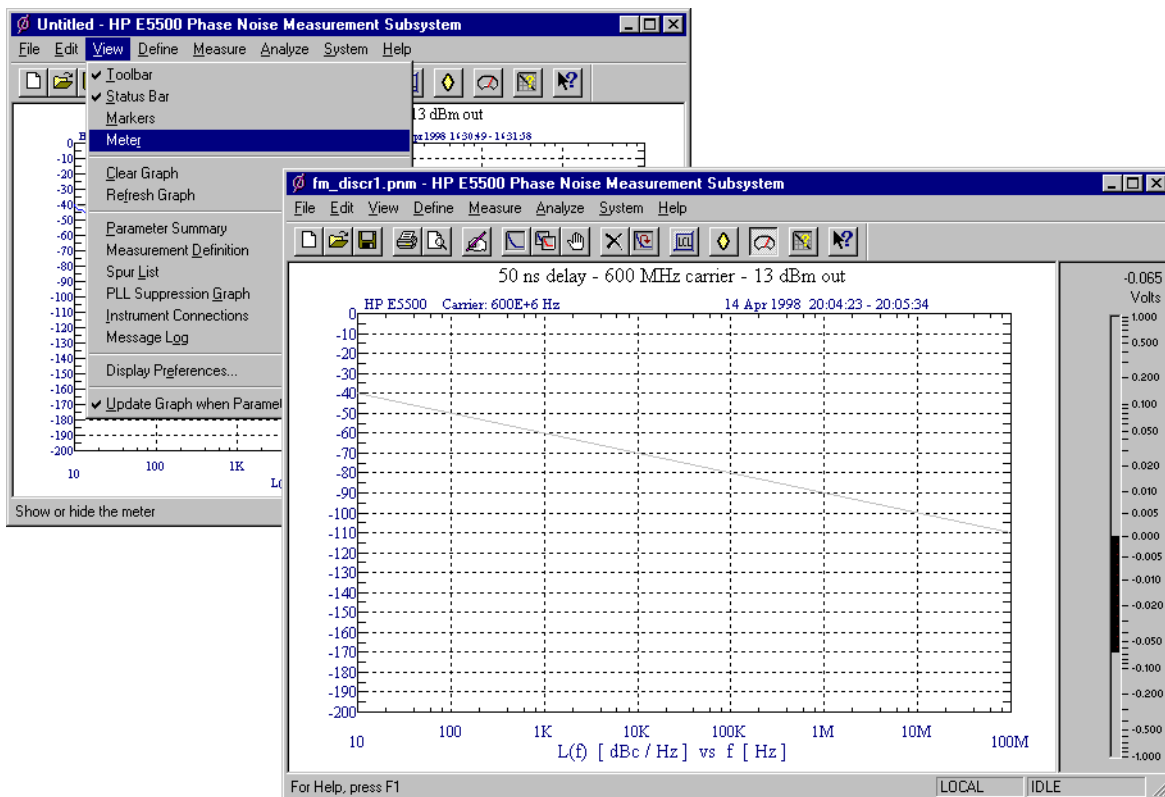

Figure 11-25 Select Meter from the View Menu
- 1 From the **View** menu, choose **Meter** to select the quadrature meter. See Figure 11-25